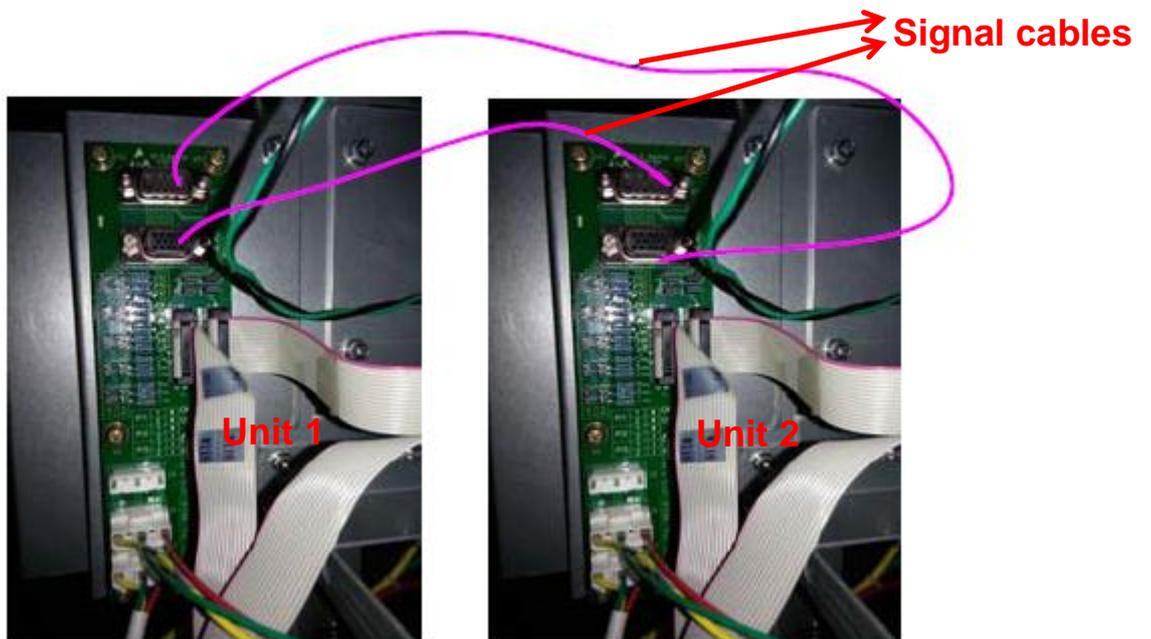

Figure 4 Parallel signal cables connection
2. For 2 cabinets' parallel system, connect the parallel signal cables, and check the parallel board settings, as is shown in figure 4 and 5.